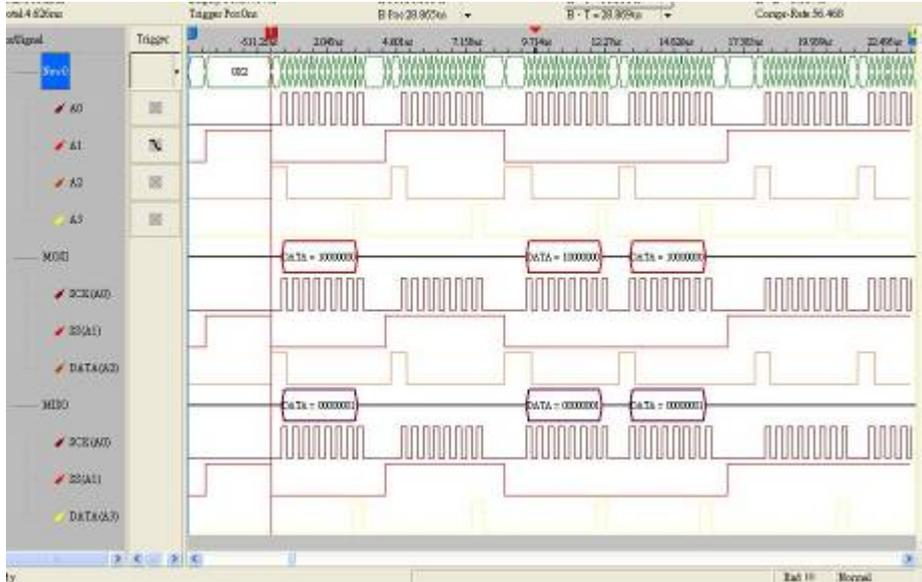

Fig 4-87 – SPI Signal
(5) Click on the “Don’t care data bit” function. The system will restart and count from the beginning of the data bits when the condition of the idling time setting is qualified.
- (6) Click off the “Don't care data bit” function, the system will decode the data stream until the bits of the data are received completely, when the condition of the idling time setting is qualified.
- (7) Press “OK” to confirm the setup of SPI Custom Setting and return to the dialog box of the SPI Setting. (**Tip:** Press “Default” to reset the current setup)
Step6. Click **Run** to acquire the SPI signal from the tested SPI circuit. Refer to the Fig 4-87.